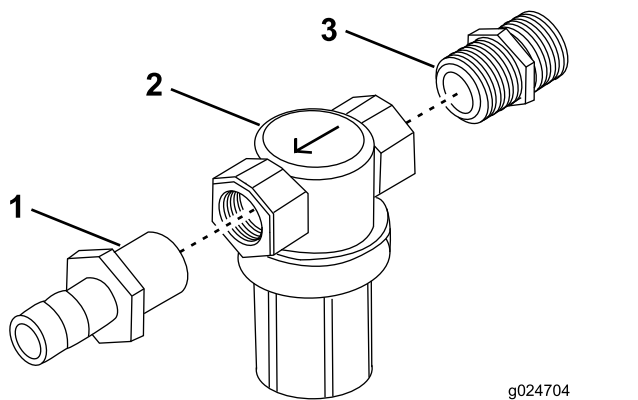

Figure 21
1. Assemble nipple (1/2 inch NPT x 1/2 inch) into the inlet of the pressure filter assembly and the straight-barbed fitting (1/2 inch NPT x 1/2 inch) into the outlet (Figure 21).